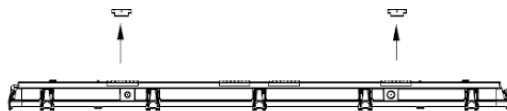
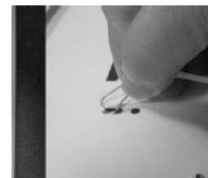

Fig. 2
Fig. 3
2. Attach the back of the luminaire's housing into the mounting brackets (Fig. 2). Ensure the LED tray is secured with the safety tethers (Fig. 3). Unlatch the Lens and Tray Assembly from Housing.